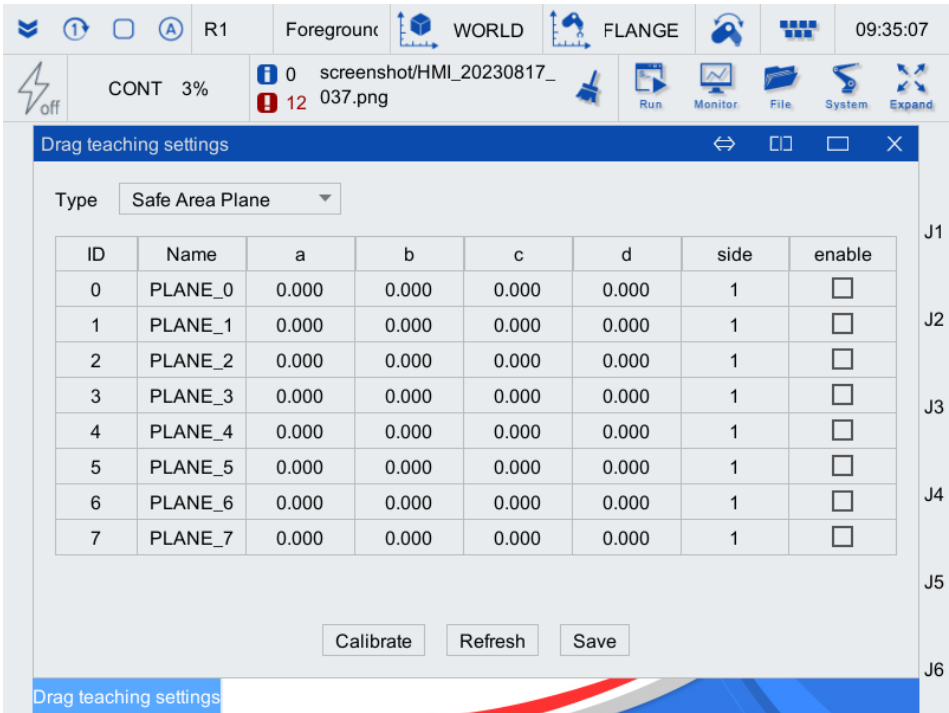

Figure 5-24 Safety zone plane parameter setting interface
Step3. In the pop-up [Drag teaching settings] interface, configure [Type] as "Safety Zone Plane", click and select the row of the safety zone plane that needs to be calibrated, click and select [Enable], and then click <Calibrate>. As shown in Figure 5-24. Parameter description is shown in Table 5-7.